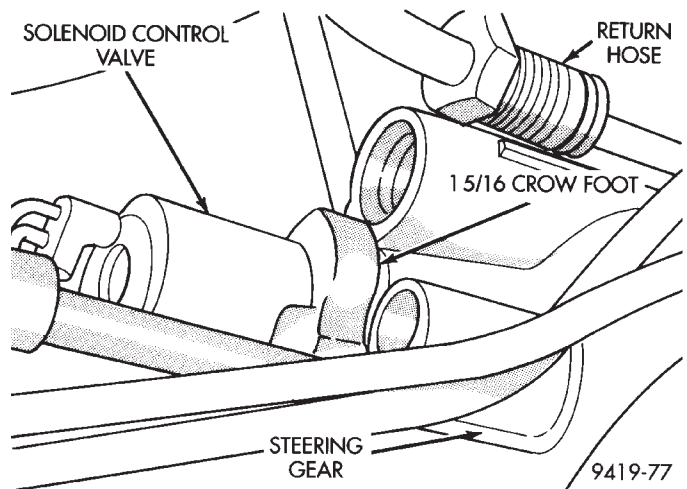

Fig. 4 Loosening Solenoid Control Valve
- (5) Using a 1-5/16 inch crow foot, (Fig. 4) loosen the solenoid control valve. Then by hand, remove the solenoid control valve from the power steering gear.